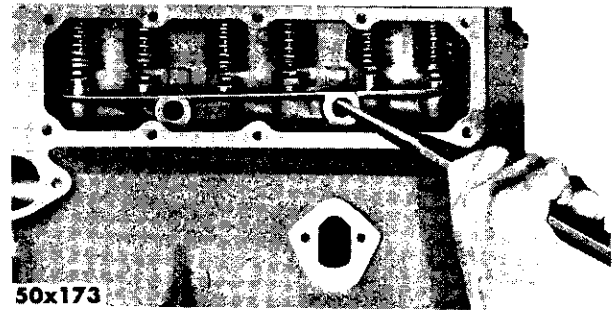

Fig. 45—Removing Tappet Guide and Tappets
- (1) Remove the right front wheel and inspection shield.
- (2) Remove the carburetor.
- (3) Remove the valve tappet cover plates.
- (4) Turn the engine until the tappets (in one of the banks) are loose and remove tappet and guide assembly (Fig. 45). Repeat this
operation and remove the other valve tappet guide assembly. To do this, insert a suitable bar into one of the attaching bolt holes of the tappet guide assembly and pry down and out to release the tappets from valve stems (Fig. 45). Repeat this operation and remove the other valve tappet guide assembly.